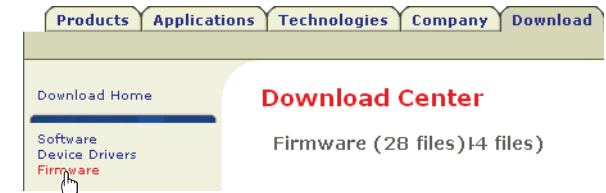

Figure 3-8 — Location of firmware upgrade files
1. Visit the Extron web site, www.extron.com, click the **Download Center** tab, and then click the **Firmware** link (figure 3-8). Select the appropriate firmware file(s) to download and copy it (them) to your computer. Note the folder to which you save the firmware file(s).